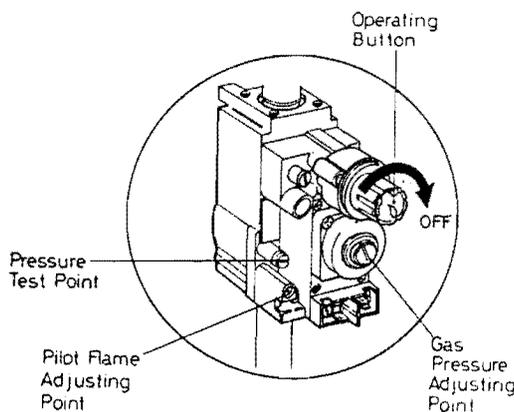

Fig. 3 Multifunctional Control
- b) Remove the cover from the adjustment point on the multifunctional control (see Fig.3), release the pressure test point screw and attach a pressure test gauge.
d) Push the START BUTTON (marked with the flame symbol) on the multifunctional control (see Fig.3) fully in and hold it in. Repeatedly push and release the lighting button until the pilot is alight. N.B. If the piezo unit should fail to spark, the pilot burner may be lit by applying a lighted taper to the pilot whilst the START BUTTON is pushed in.
6.9 Allow the heater to operate for 15 min., then adjust the burner pressure to the output required (see Fig. 3 and Table 2).
To adjust the burner pressure, remove the cover from the gas pressure adjusting point (see Fig.3) and turn the flow rate screw clockwise to increase, anti-clockwise to decrease.
8.9 Gas pressure check (see Fig.3 and Table 2):-
Attach a gas pressure gauge to the burner setting pressure test point on the multifunctional control (see Fig.3). Light the heater, check the pressure and confirm by a gas rate check at meter. Adjust, if necessary, at the gas pressure adjusting point after removing the cap. Turn clockwise to increase the burner pressure and vice versa.